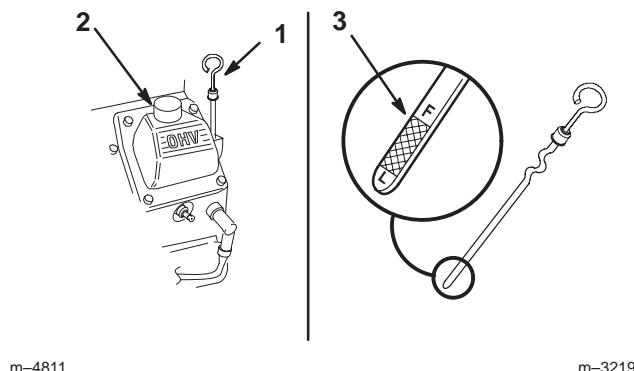

Figure 41
3. Clean around the oil dipstick (Fig. 41) so dirt cannot fall into the filler hole and damage the engine.
4. Pull the oil dipstick and wipe the metal end clean (Fig. 41).
5. Slide the oil dipstick fully into the filler tube. Pull the dipstick out and look at the metal end (Fig. 41). If oil level is low, slowly pour only enough oil into the filler tube to raise the level to the full mark.
5. Slowly pour approximately 80% of the specified oil into the filler cap (Fig. 41). Refer to Servicing the Engine Oil, page 34.